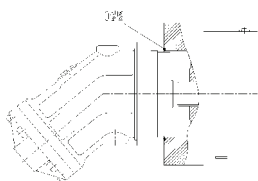

Figure 6:
5.Put O ring into the O ring groove of valve block oil port as figure 6.